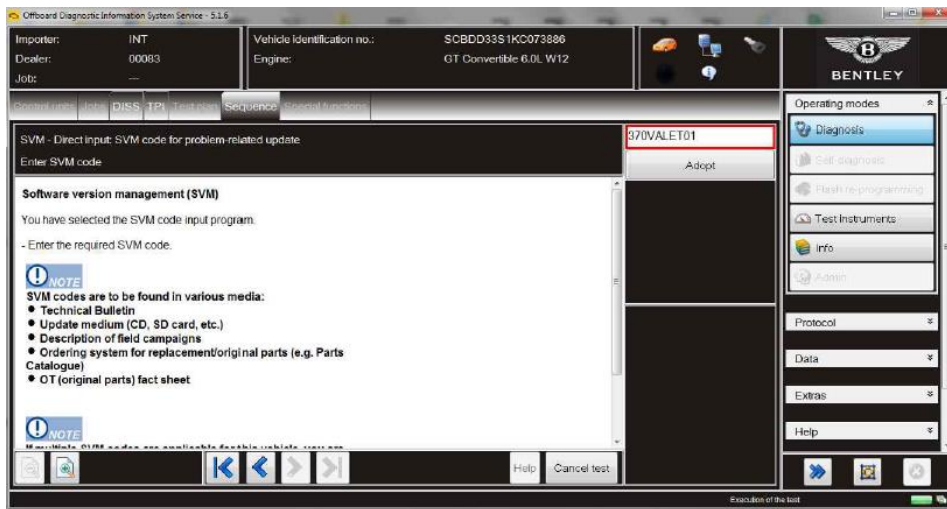

Figure 2
2. On the next screen enter the SVM code 370VALET01 and select Adopt (Figure 2).